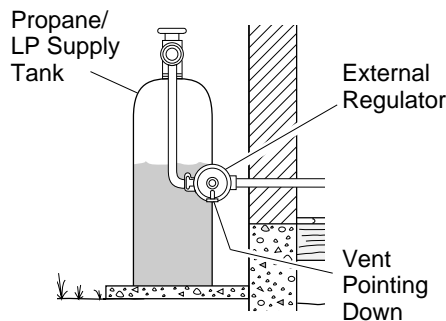

Figure 13 - External Regulator With Vent Pointing Down
- external regulator (supplied by installer, see Figure 13)
The installer must supply an external regulator. The external regulator will reduce incoming gas pressure. You must reduce incoming gas pressure to between 11 and 14 inches of water. If you do not reduce incoming gas pressure, heater regulator damage could occur. Install external regulator with the vent pointing down as shown in Figure 13. Pointing the vent down protects it from freezing rain or sleet.